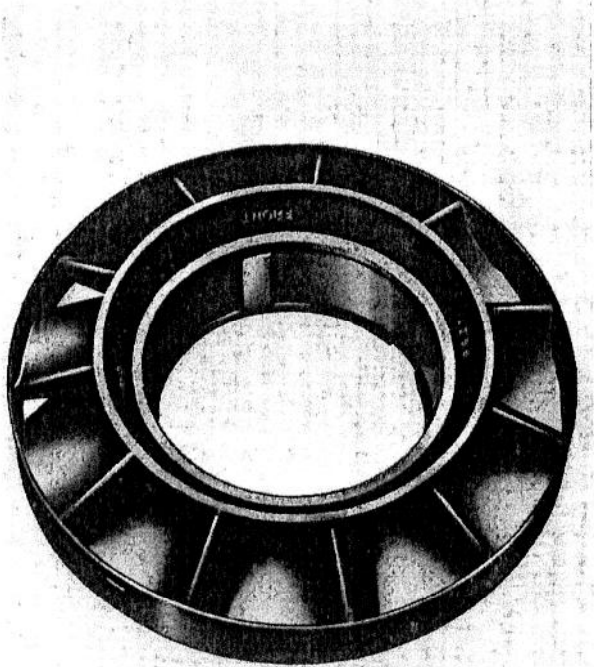

FIG. 7
1. (Fig. 7) Fit the snap ring into the groove in the stator body, on the opposite side to the face of the stator marked 'FRONT'.